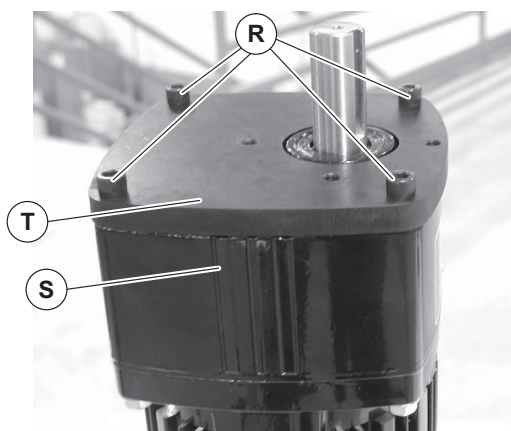

Figure 11
7. Remove four (4) screws (Figure 11, item R) and detach motor (S).
8. Install mounting plate (Figure 11, item T) on new motor with screws (R) and tighten to 75 in-lbs (8.5 N-m).